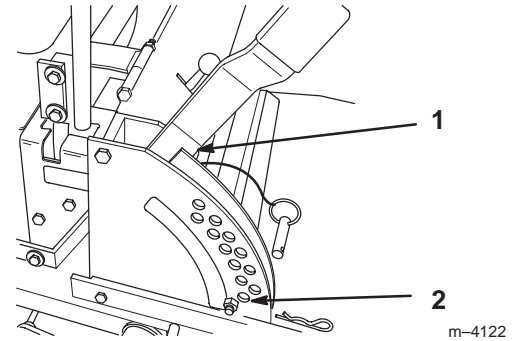
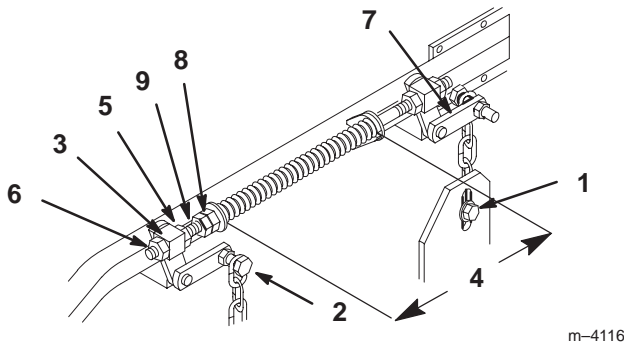

Figure 54
Figure 55
4. Raise the deck to the transport position (Fig. 54). Take force off of the two large deck lift springs by loosening the jam nut and front spring nut, in front of each spring, as far as possible (Fig. 55).
5. Place 2 thick blocks (1-1/4 inch [35 mm]) under the rear left and right lower edge of the mower. Place 1 block (1-3/8 inch [44 mm]) under the front center lower edge of the mower, not under the anti-scalp roller brackets. Lower the mower to the 1-1/2 inch (38 mm) height-of-cut position (Fig. 54).
6. Loosen the bottom chain bolt in the slot at the rear of the deck. Repeat for the opposite side (Fig. 55).
7. Loosen the front and rear locking nut on either side of the front swivel. Loosen until the front chains are loose and the deck is supported by blocks. Repeat for the opposite side. (Fig. 55).
8. When the hardware is loosened, the remaining tension in the large support springs will tend to rotate the deck lift handle up, out of the 1-1/2 inch (38 mm) position. Press down on the rear deck support arm to firmly return the deck lift handle to the 1-1/2 inch (38 mm) position (Fig. 55).
9. While continuing to press down on the rear deck support arm, take the slack out of the rear chain and tighten the hardware at the bottom (Fig. 55). Downward pressure may now be released. Repeat for the opposite side.
- Raise the deck lift lever to the transport position (Fig. 54).
- Adjust the compression springs by turning the front spring nuts so that the distance between the two large washers is 10-1/4 inch (260 mm); then tighten the jam nut (Fig. 55).